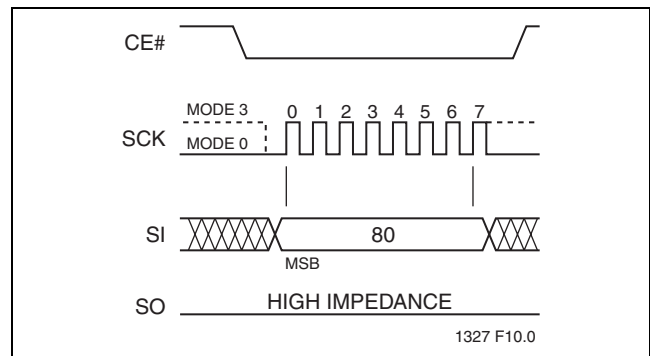

FIGURE 9: Disable SO as Hardware RY/BY# during AAI Programming
The 8-bit command, 80H, prevents the Serial Output (SO) pin from outputting Busy status during AAI-Word-program operation and re-configures SO as an output pin. The device can only accept the 80H command when the device is not in AAI mode. Once SO is an output pin, in AAI mode the device can accept both RDSR instruction for polling and Software Status Register data outputs through the SO pin. This is shown in Figure 9.